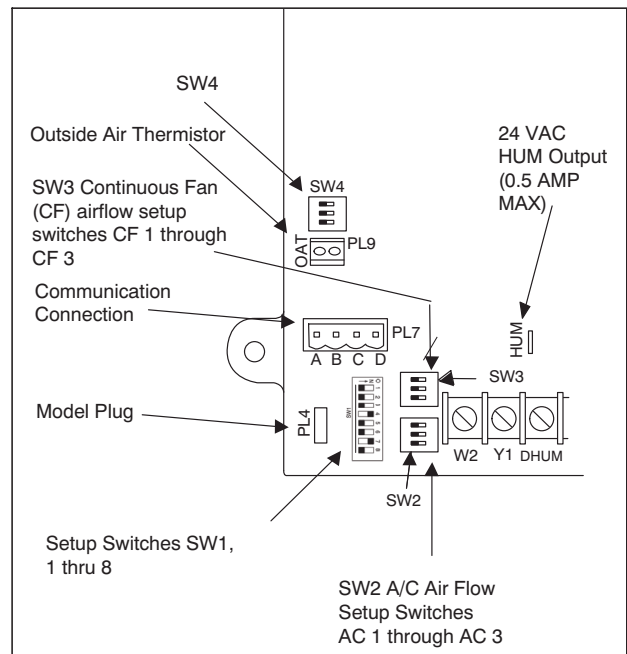

Fig. 13 - Furnace Control
5. Turn Setup Switch SW1-2 on furnace control ON. See Fig. 13.